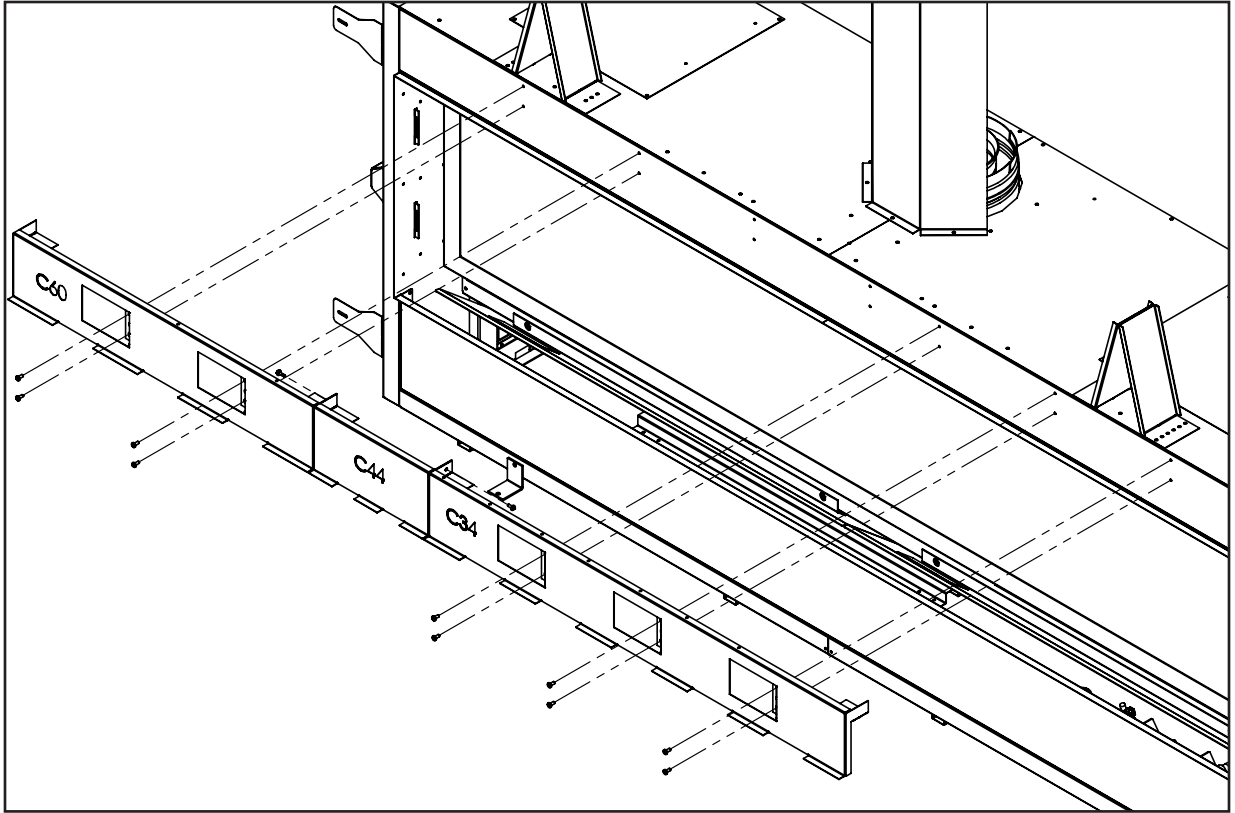

Figure 18. Combustible Facing Kit C72
Step 6: If installing a C44 or C60, attach your extension piece to the C34 main panel. If installing a C72, attach all the extension pieces together in the order shown in Figure 18. Note, the c72 parts will not line up to the edge of the tiling flange.